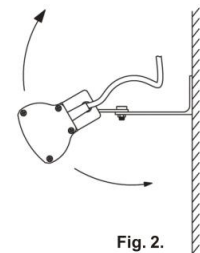

Fig. 2.
3. The bracket can be used to adjust the direction of the heater up and down (See Fig.2).